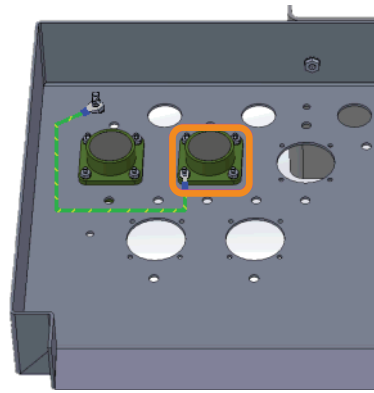

Figure 1 Install Ring Terminal
- Step 1. Install the 8-pin (size 22) voltage input receptacle harness in the bottom of the cabinet in the center hole in the back row. See *Figure 1*.
- Step 2. Install the smaller ring terminal of the green/yellow ground wire and the two drain wires to the last connector screw and secure them with the last nut. See *Figure 1*.
- Step 3. Use the existing nut to connect the larger ring terminal of the green/yellow ground wire to the ground stud. See *Figure 1*.